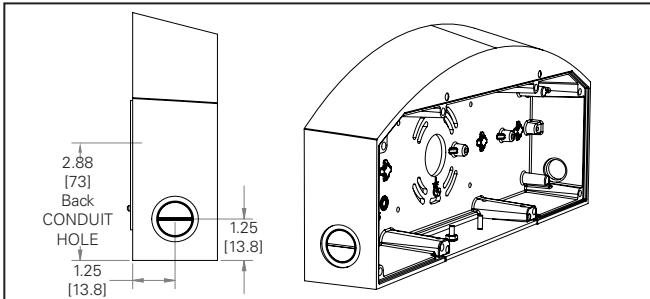

Figure 15.
6. Tighten the two 1/4-20 Phillips head screws on the fixture to 20 in-lbs. (Figure 15.)
4. Pull in the power wires from the back of the BackBox or the side conduit holes (Figure 15).